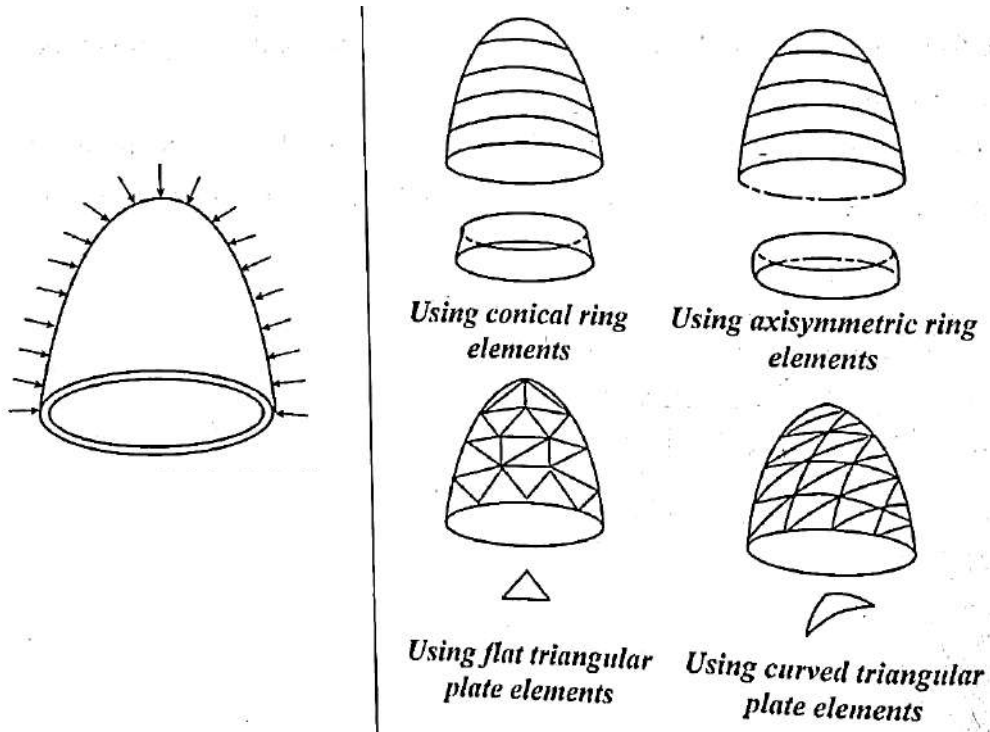

Figure 1.20. (a) Original shell (b) Discretization using different types of elements
- A thin wall sheet shown in Fig.1.20 (a), which can be discretized by several types of elements as shown in Fig. 1.20(b).